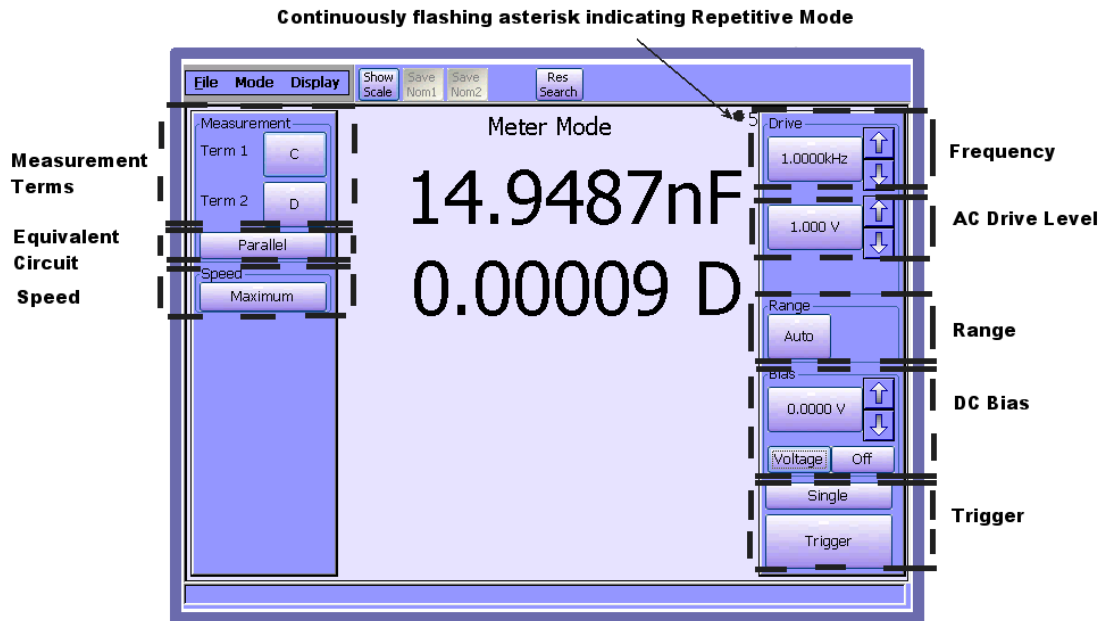

Figure 4-7 Typical Display
- 6) The screen will display the measured values of C and D. The display should be similar to Figure 4-7